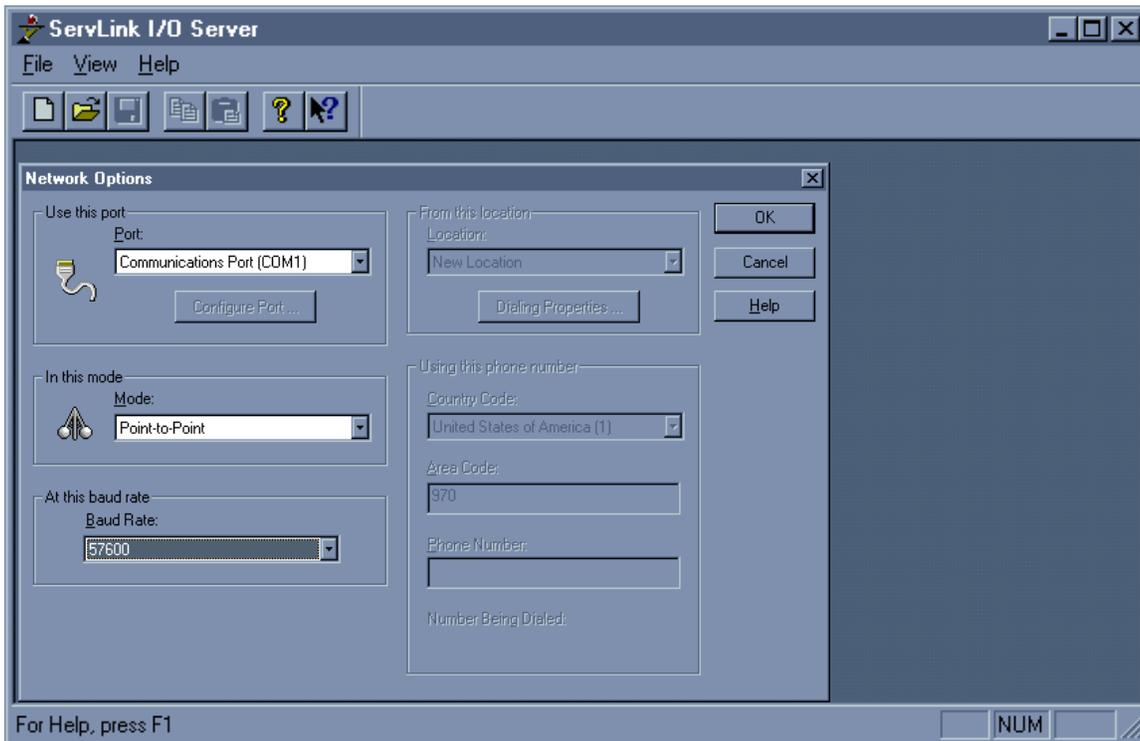

Figure 4-1. ServLink Screen
2. Start ServLink on your PC, and select the port your PC is using and the baud rate. Mode: is "Point-to-Point". See Figure 4-1.